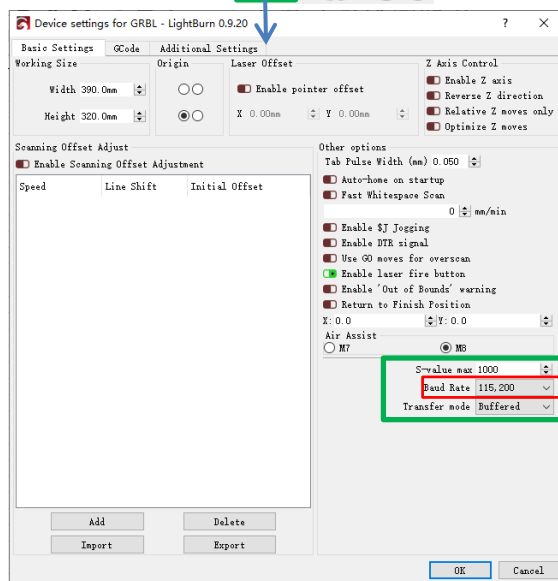

Figure 6.2, Baud Rate Selection
2. Select the correct baud rate (115200) connection (Figure 6.2)